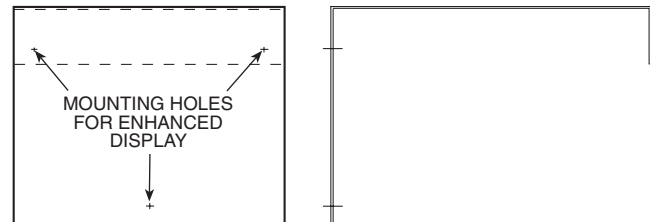

Fig. 3 — Enhanced Display Mounting Bracket
7. For 30HX applications, using the three no. 10 x ³/₈-in. sheet metal screws provided, attach the display mounting bracket (Fig. 3) to the display control box.